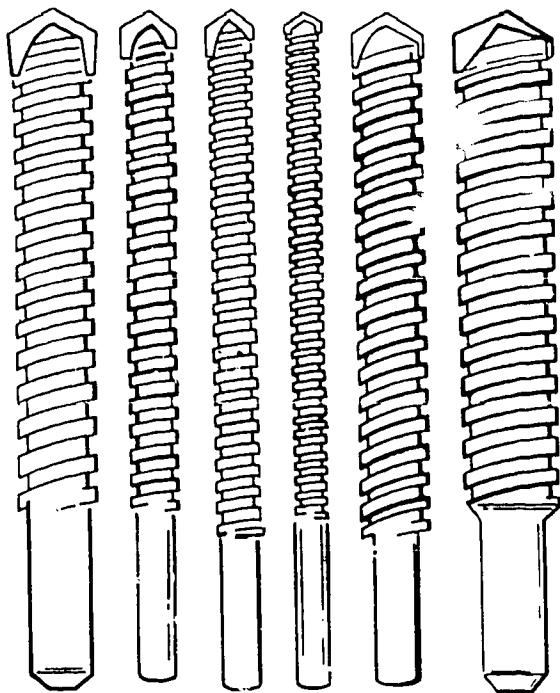

Figure 2-4. Masonry drills.
**Masonry Drills.** Several types of masonry drills are available for drilling holes in concrete, brick, and cylinder block. Holes are needed when attaching sheet metalwork, such as downspouting, duct work, and metal awnings. One type of masonry drill is the star drill (not illustrated) that somewhat resembles a chisel except that the cutting tip forms a cross. Star drills are available in various sizes and are driven by hand with a heavy ball peen hammer. Another type of masonry drill, which is illustrated in figure 2-4, is designed to fit in the chuck of portable power drills. These masonry drills have tungsten-carbide cutting tips and are available in sizes 1/4 to 3/4 inch. A 1/2-inch portable drill should be used with masonry drills that are 3/8 inch and larger.